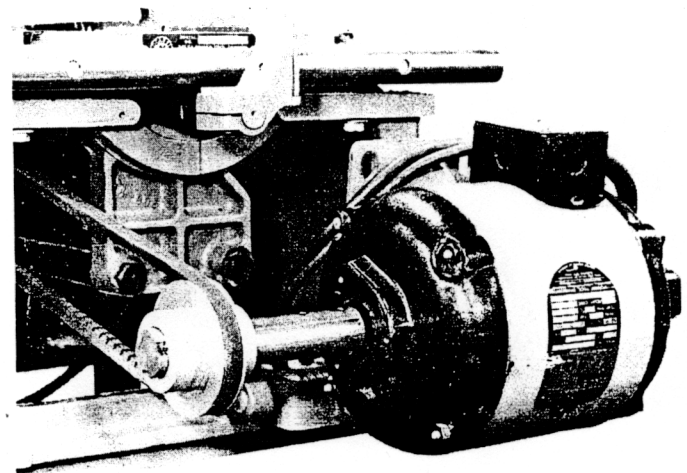

Figure 3
7. Assemble motor extension shaft assembly over the motor shaft and lock in place with the two set screws, see Figs. 3 and 7. Make sure the pulley slides freely along motor extension shaft. **Do not oil**, as the pulley rides on three "Teflon" Dowel Pins which are self-lubricating.
8. Install "V" belt, see Fig. 3. This is a newly developed special belt which has tremendous pulling power.